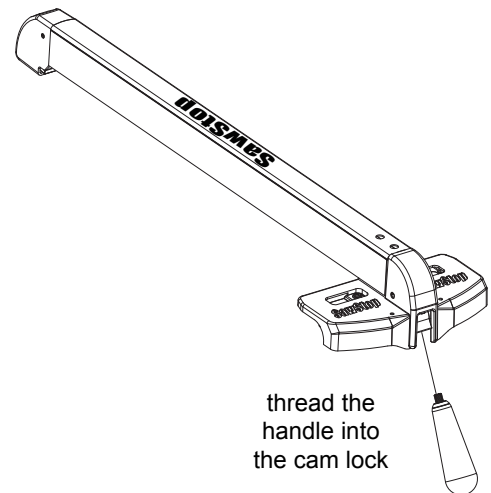

Fig. 12
12. Locate the fence and red fence handle. Thread the handle into the cam lock on the front of the fence (see Fig. 12).